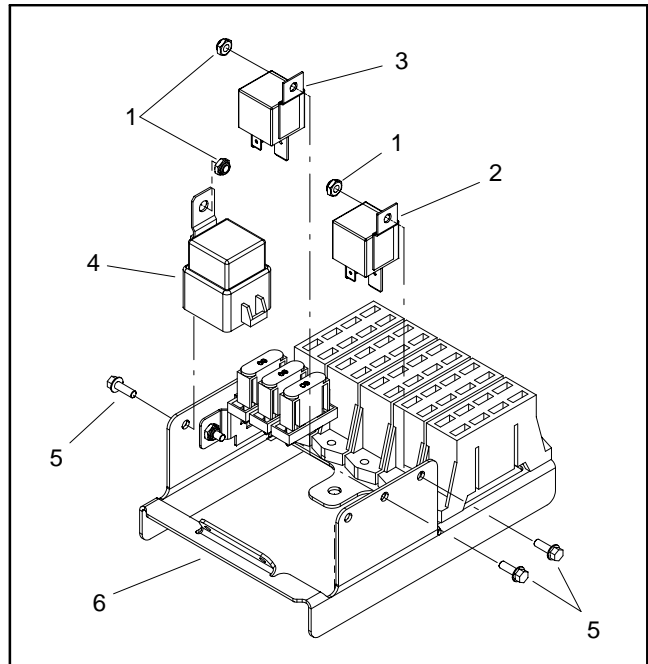
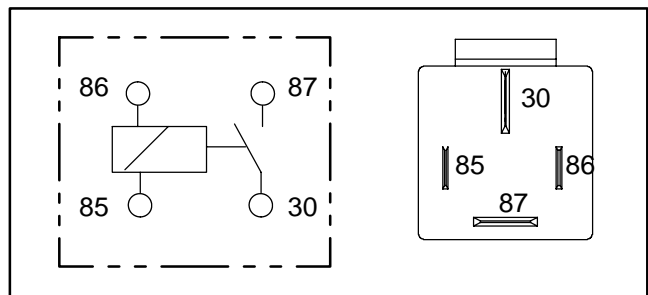

Figure 34
Figure 35
The glow and main power relays are located at the power center behind the operator seat (Fig. 34). These relays are attached to the wire harness with a four (4) wire connector (Fig. 35).